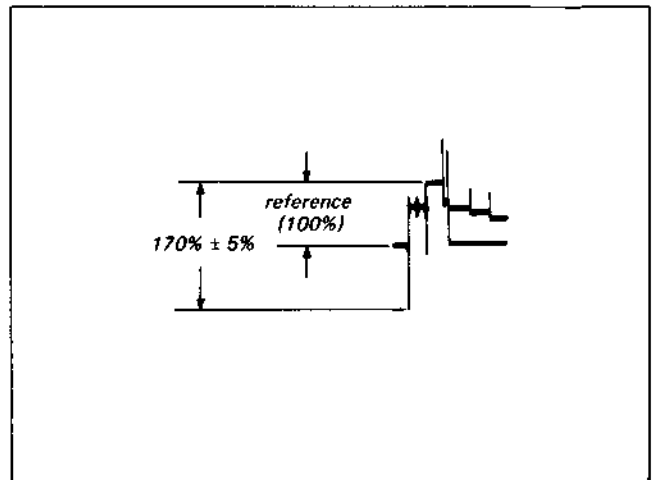

Fig. 4-4-7. Dark clip adjustment
- (1) Supply the VTR with the colour bar signal and set up the E-E mode.
- (2) Connect the oscilloscope to TP4 (collector of Q8).
- (3) Adjust RV6 so that the signal tip (dark peak) is  $170\% \pm 5\%$ . (See Fig. 4-4-7.)